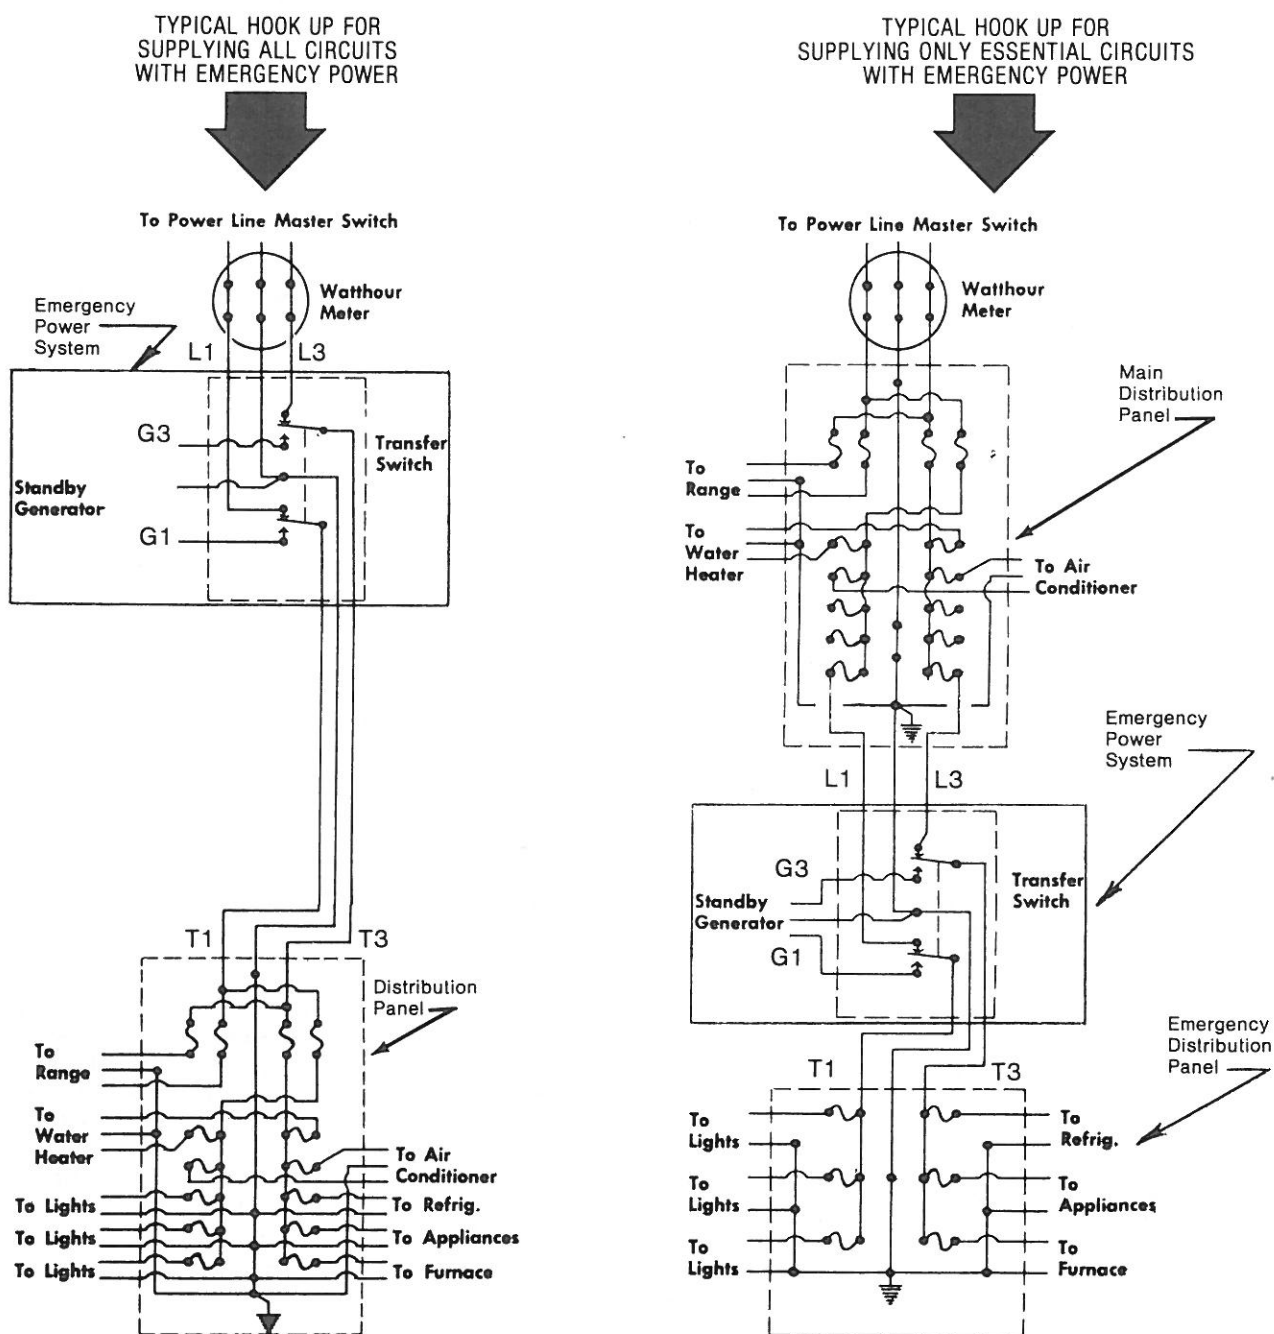

Figure 6
**WARNING:** IF THE GENERATOR IS TO BE USED AS A STANDBY POWER PLANT WIRED INTO THE EXISTING COMMERCIAL SYSTEM, A DISCONNECT SWITCH MUST BE INSTALLED WHICH WILL ISOLATE THE GENERATOR FROM THE COMMERCIAL POWER WHENEVER THE GENERATOR IS NOT OPERATED, AND WILL ISOLATE THE COMMERCIAL POWER FROM THE GENERATOR WHEN THE GENERATOR IS OPERATING (SEE FIGURE 6).